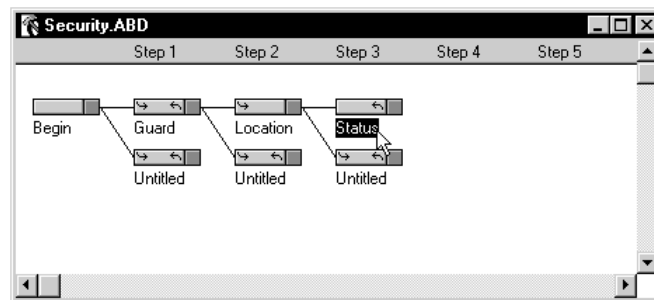

Figure 4-36 “Status” Handler Selected
11. Click the “Status” Handler (Figure 4-36).